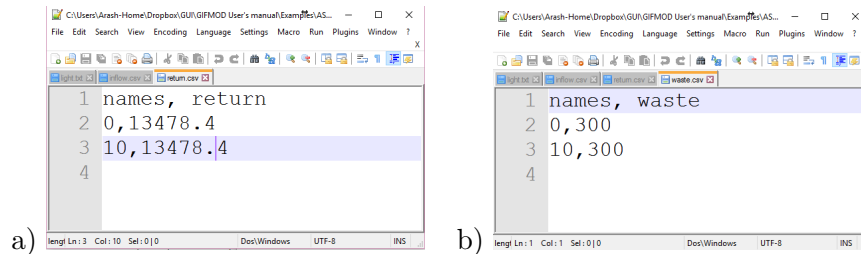

Figure 4: a) return and b) waste flow input file for the activated sludge example
- Click on the aeration tank and from the **Inflow time-series** property in the properties window select the file containing the inflow time series. Note that only to time-point are needed because the flow rate and characteristics are assumed to be constant throughout the simulation. The quasi steady state hydraulics mode solve the flow rates in each connector by assuming that the summation of inflows and outflows are equal. At this point if we consider a quasi-steady state flow there are 5 connectors while the inflow=outflow condition can only be applied to the three blocks that have more than one connectors connected to them (i.e. Aeration tank, Clarifier top, and Clarifier bottom) and so there is only three equations for five unknowns. However, in activated sludge systems typically the waste and return flows are controlled. We impose the flow rates in the RAS and WAS connectors using prescribed flow. The input prescribed flow files for the two connectors are shown in figure 4. Create the files and save them re-